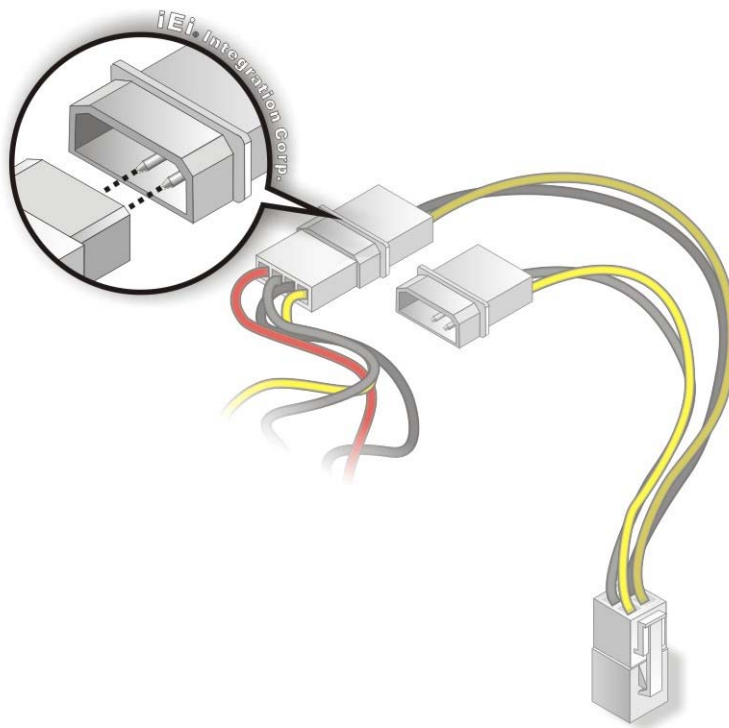

Figure 4-17: Connect Power Cable to Power Supply
Step 3: **Connect Power Cable to Power Supply.** Connect one of the 4-pin (1x4) Molex type power cable connectors to an AT/ATX power supply. See **Figure 4-17**.